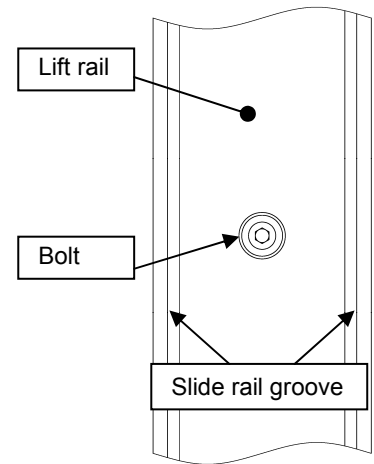

Fig. 9 Where to apply grease on lift rail
- Apply clean grease (lithium soap based grease: No.1) to slide rail grooves. (Fig. 9)
⑥Overhaul pump